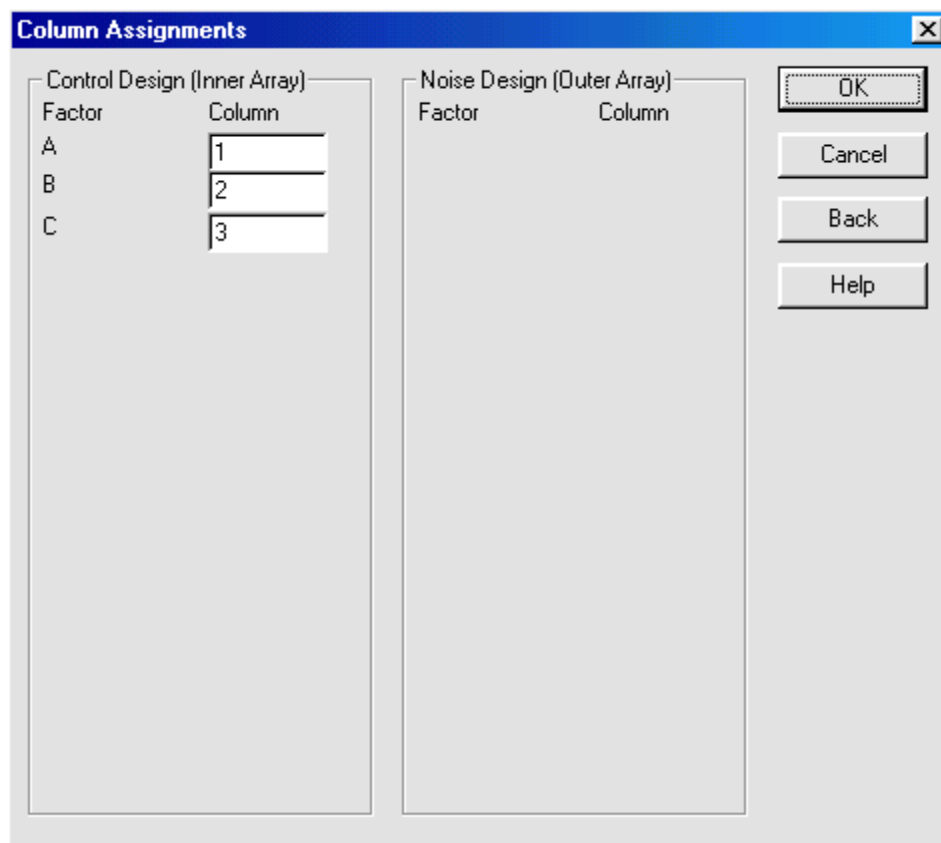

Figure 7-4. Column Assignments Dialog Box
7. Click OK to display the Column Assignments dialog box shown in Figure 7-4.